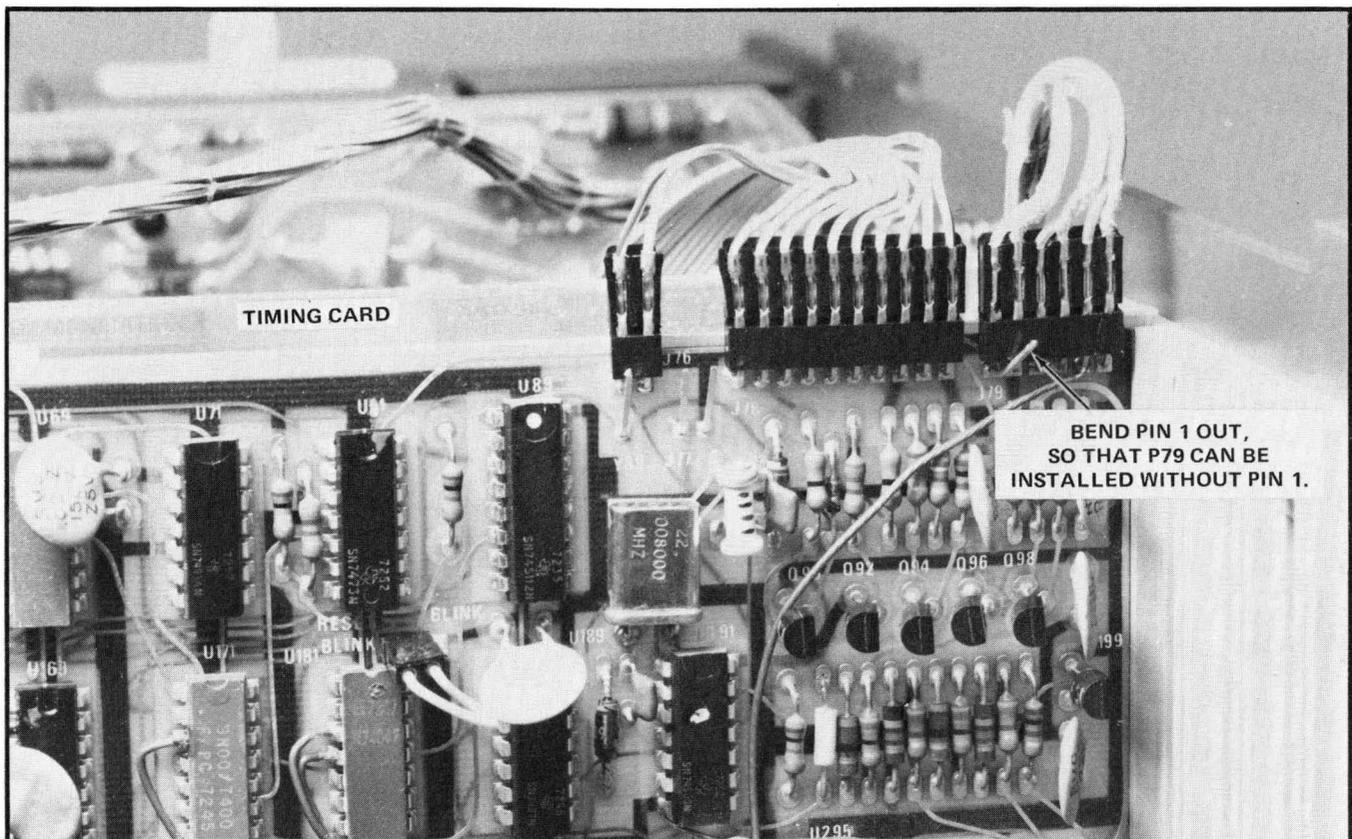

Fig. 4-3. Configuration of P/J79 for Vertical Sync Adjustment.
- b. Remove P79 from J79, and bend Pin 1 so that P79 can be installed without pin 1; see Fig. 4-3 for illustration.